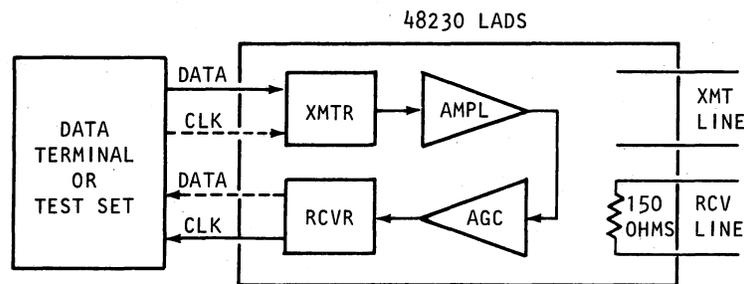

Figure 4-4. Local Site LADS in Local Loopback Mode
Schematic diagrams of these tests are depicted in Figures 4-4, 4-5, and 4-6.
1. Connect and condition test equipment as shown in Figures 4-4 and 4-7.